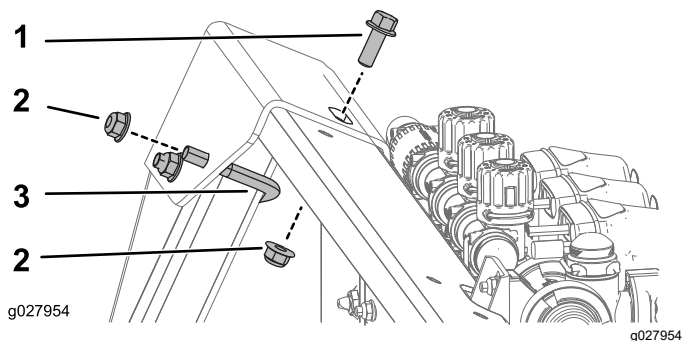

Figure 10
2. Secure the back side of the upper bracket using 1 U-bolt, 1 bolt (3/8-16 x 1 inch), and 3 flange nuts (3/8-16 inch) as shown in Figure 10.